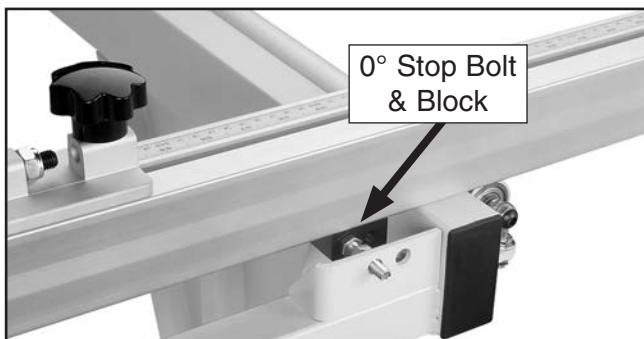

Figure 101. Stop block against 0° stop bolt.
5. Rotate fence so stop block is against 0° stop bolt (see **Figure 101**).